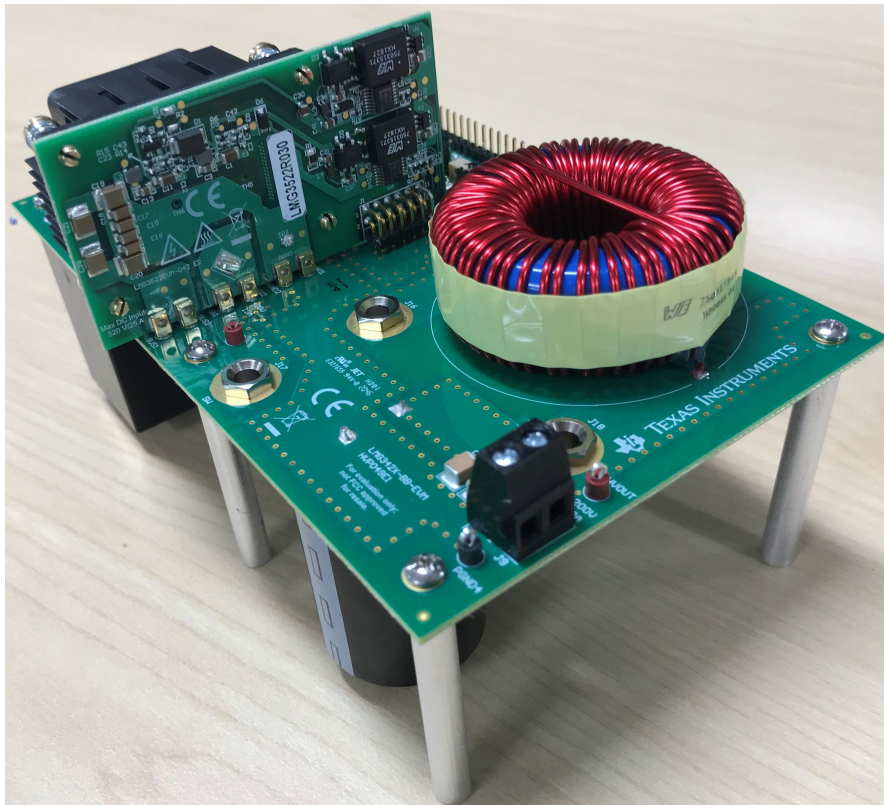
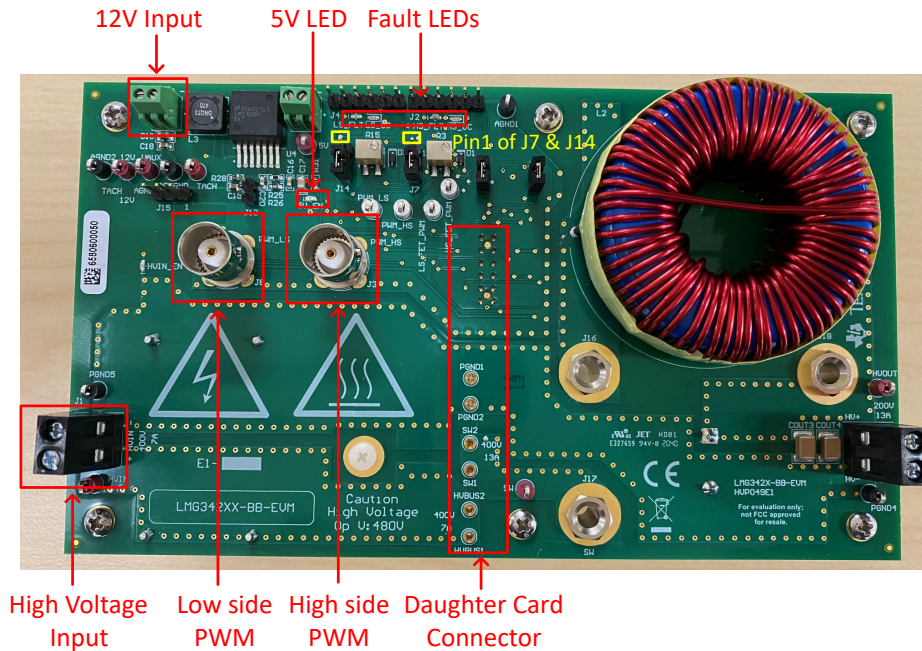

Figure 7-1. LMG342X-BB-EVM Motherboard With LMG352XEVM-04X
Figure 7-2. Connector and LEDs on the LMG342X-BB-EVM
1. Connect the LMG352XEVM-04X to LMG342X-BB-EVM as shown in Figure 7-1. The area for connection on the mother board is shown in Figure 7-2.
6. If two complementary PWM signals with dead time are provided to J3 (high-side PWM) and J8 (low-side PWM), then please connect Pin 1 to Pin2 for header J7 and J14 (Pin1 of J7 and J14 are indicated in Figure 7-2). This allows the two PWM signals to directly control the high-side and low-side devices.
9. Connect the signal generator output to the LMG342X-BB-EVM PWM input as shown in Figure 7-2.
10. Connect 12-V, 2-A DC power supply to the LMG342X-BB-EVM 12-V bias supply as shown in Figure 7-2.
11. Connect the high voltage power supply to the LMG342X-BB-EVM high voltage input for buck mode (High Voltage) as shown in Figure 7-2.